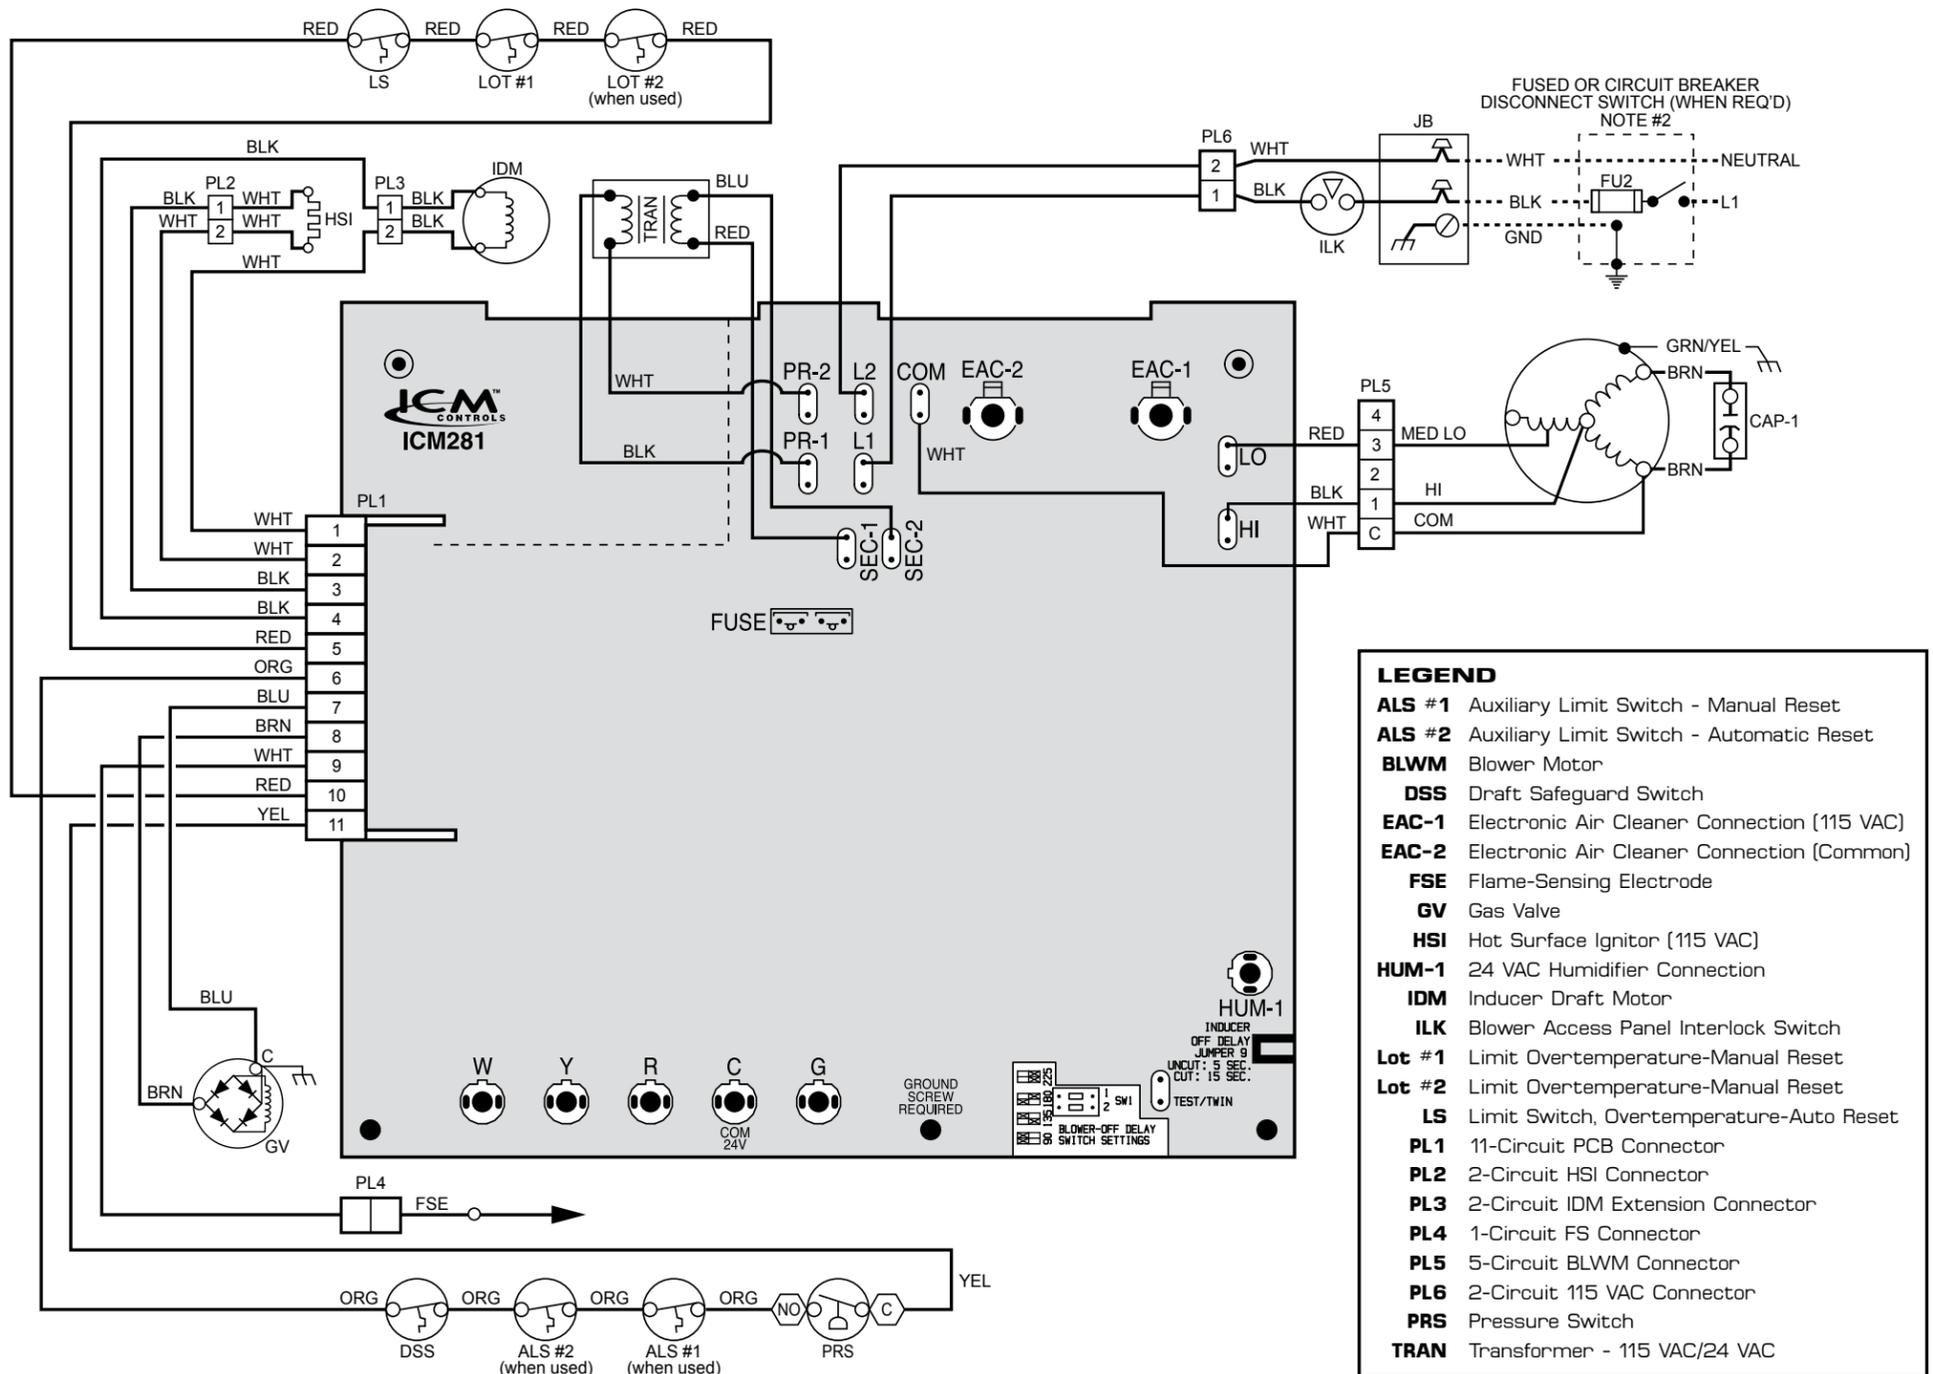

Figure 1 – Bottom Right Corner of Control Board
2. For 90 percent efficient furnaces, clip JW9 jumper wire. The JW9 jumper is found close to the right hand corner of the circuit board, beneath the HUM-1 terminal (see Figure 1). This will result in a 15-second inducer OFF delay.
7. Set blower off delay. Blower off delay DIP switch SW1 is found near the right-hand corner of the board (see Figure 1).
To configure your control boards for twinning, simply (1) install each control board according to the installation instructions; (2) connect the TWIN terminals together (see Fig. 1); and (3) connect the 24 VAC common together. A common ground between the two furnaces is also required.